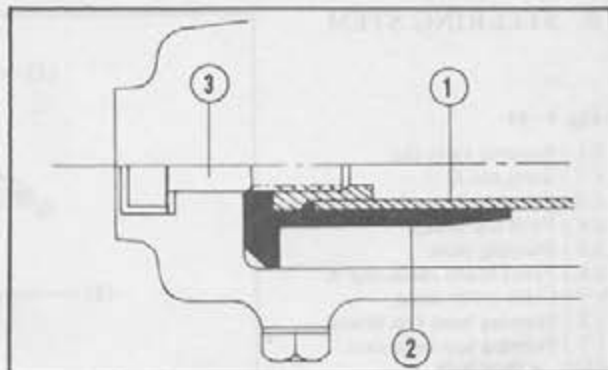

Fig. 4-50 (1) Seat pipe
1. Apply locking sealant to the threads of the 8 mm Allen head screw. Install the oil lock piece and seat pipe and tighten with the Allen head screw as shown in Fig. 4-50.